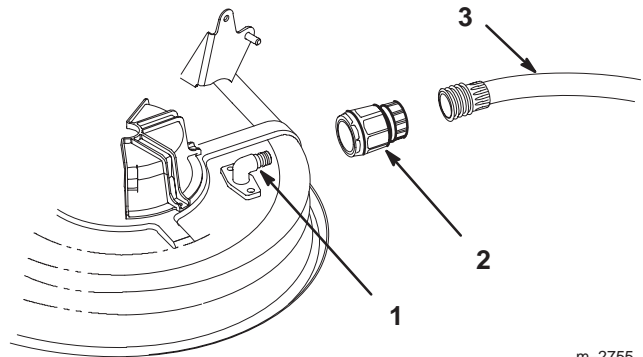

Figure 52
2. Screw coupling to the end of a garden hose, attach coupling to mower washout fitting and turn water on high (Fig. 52).